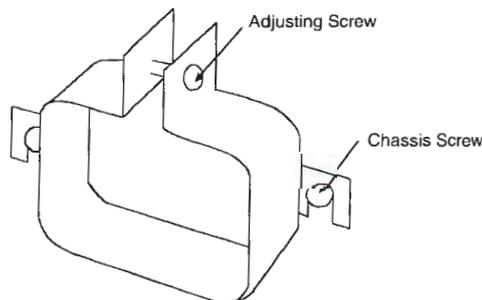

Figure 2 Power Cord Retainer
2. Connect the AC power cord retainer to the chassis (see Figure 2):
- a. Position a retainer over an AC power connector, oriented as shown in Figure 2, hooking the retainer tabs over the two screws on either side of the power connector. Tighten both screws.